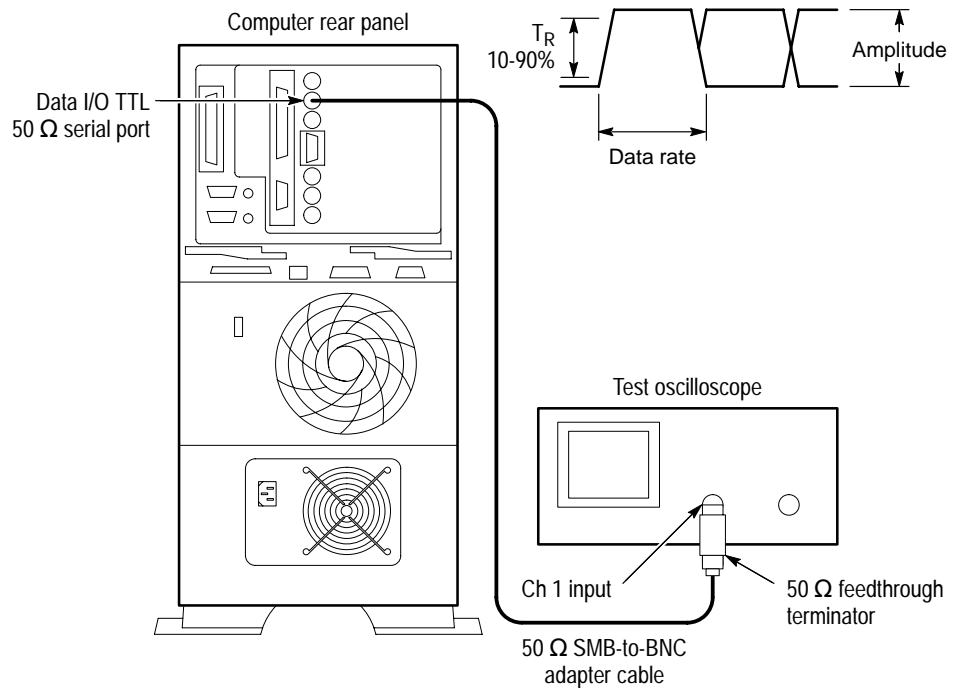

Figure 12: Setup for measuring the TTL 50 ohm data I/O port
17. Move the test system output cable to the TTL 50 Ω Data I/O Port. See Figure 12.
20. Verify a waveform amplitude of approximately 3.0 volts, a data rate of 45 MHz, and a rise time of approximately 2.0 ns. See Figure 12.